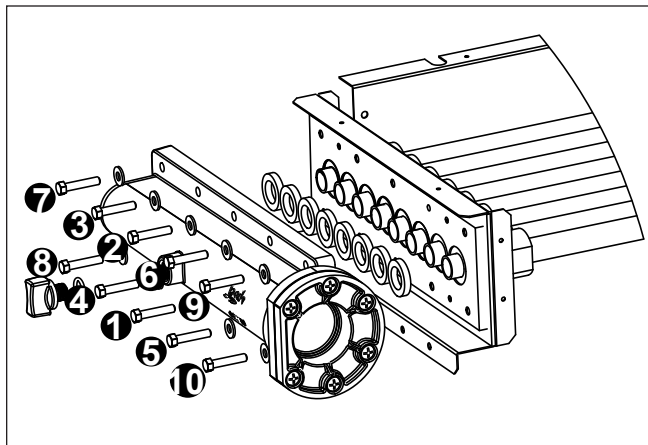

Figure 11. Header Bolt Tightening Sequence
16. Use a torque wrench to tighten the bolts on each header to 4 ft-lbs. The bolts must be tightened in the sequence indicated in Figure 11.